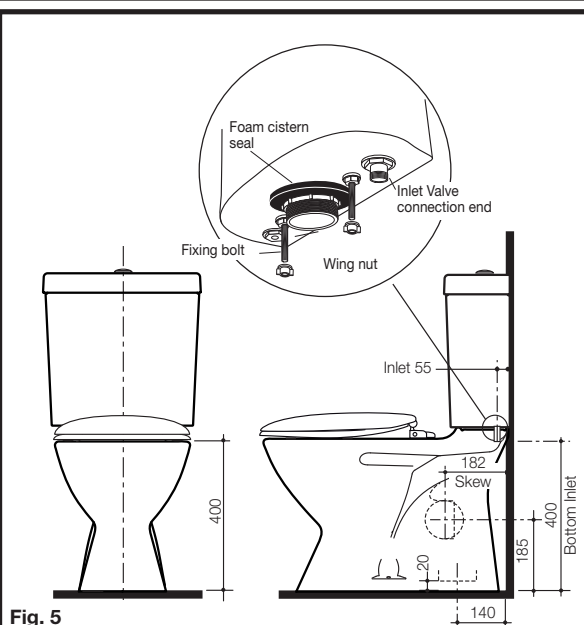

Fig. 5
- 1- Ensure the pre-fixed foam seal at base of cistern is securely attached to cistern base, as detailed in **Fig. 5**.